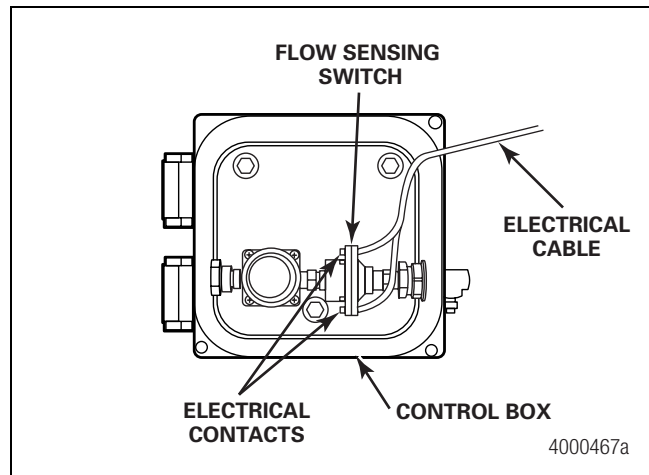

Figure 2.66
- Connect the electrical cable to the electrical contacts of the flow sensing switch in the control box. The flow sensing switch will be black or grey in color for a standard MTIS. This switch **must** be grey if using the ThermALERT™ system. Figure 2.66.